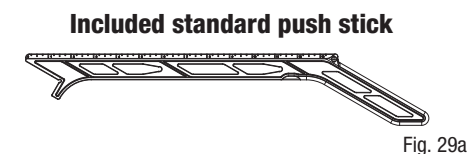

Fig. 29a
HOW TO MAKE AN ADDITIONAL PUSH STICK (Fig. 29a-29b)
- In order to operate your table saw safely, you must use a push stick whenever the size or shape of the workpiece would otherwise cause your hands to be within 6" (15 cm) of the saw blade or other cutter. A push stick is included with this saw (Fig. 29a).